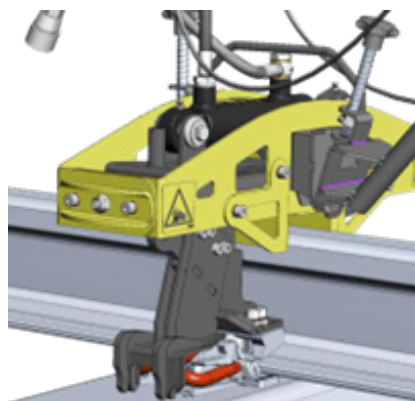

Fig 47.
2. Press the button (1) once to power up the drive unit.
3. Press the activation button (3) once to activate the tool.
4. Lift the machine slightly and move the tool along the rail so that the arms are positioned correctly next to the clips ("Fig 47.").